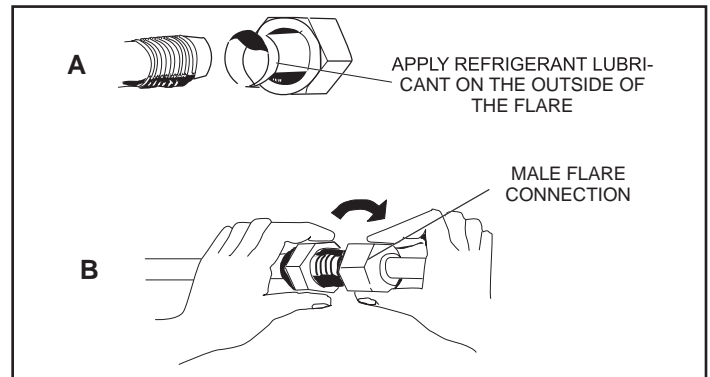

Figure 7. Making Connections (Male to Female Connection)
6. Apply recommended HFC-410A refrigerant lubricant to the outside of the flared refrigerant lines (figure 7-A).
7. Align the threaded connections with the flared refrigerant lines. Tighten the flare nuts lightly at first to obtain a smooth match (figure 7-B).